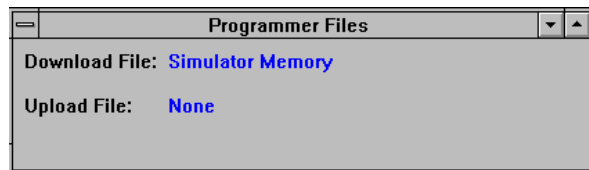

Figure 6-22. Programmer Files Window
- **Files Window:** The Programmer Files window (Figure 6-22) identifies the filename of the download and upload files.